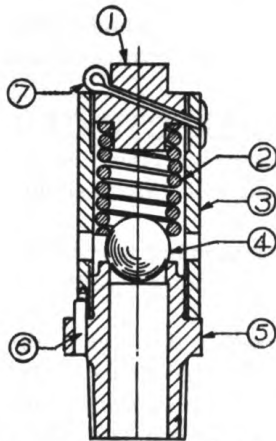

FIG. 19
Fig. 19 shows details of the working parts of this valve, consisting of a steel ball (4) lapped into a steel seat (5), held in place by a steel spring (2) and nut (1). The spring